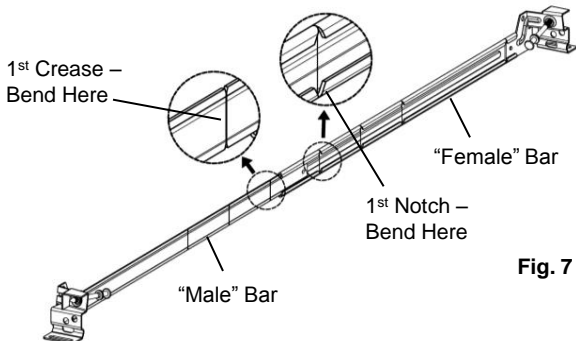

Fig. 7
- Spread the bars as wide as possible. (Fig. 7)
- For each hanger bar, bend the "male" bar, back and forth at the 1st crease from the center until it splits. Bend the "female" bar, back and forth, at the 1st notch from the center until it splits. (Fig. 7)